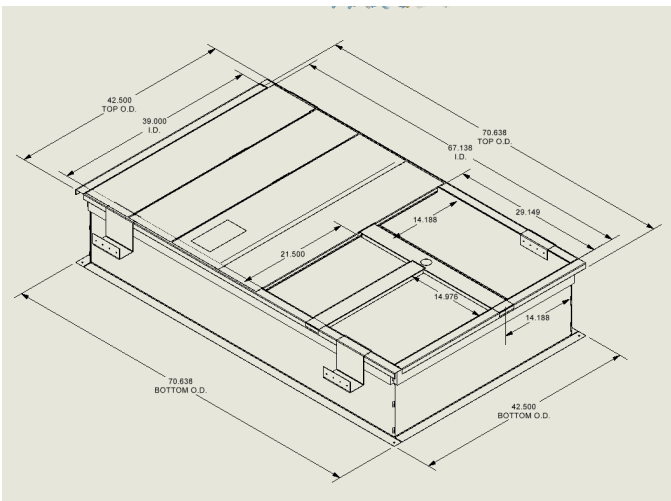

Fig. 2 - 3 to 6 Ton Roof Curbs
4. Create two roof opening cuts in the roof to the approximate size of the return and supply openings on your curb. Refer to your curbs dimensions displayed in Figures 2 or 3. It is not necessary to cut out the entire area of the roof curb.